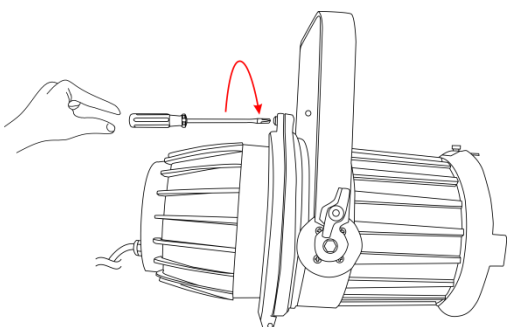

Fig. 07
- 07) Insert a crosshead screwdriver into the screws and turn right (Fig.07).